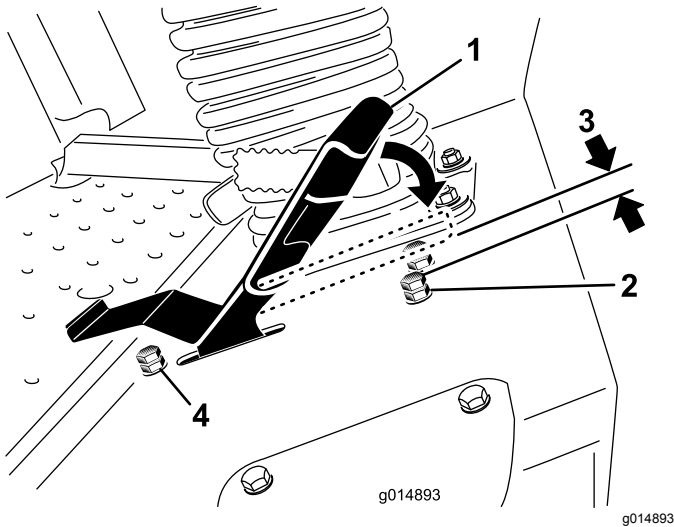

Figure 47
- Loosen the jam nut on the stop bolt for the traction pedal (Figure 47).